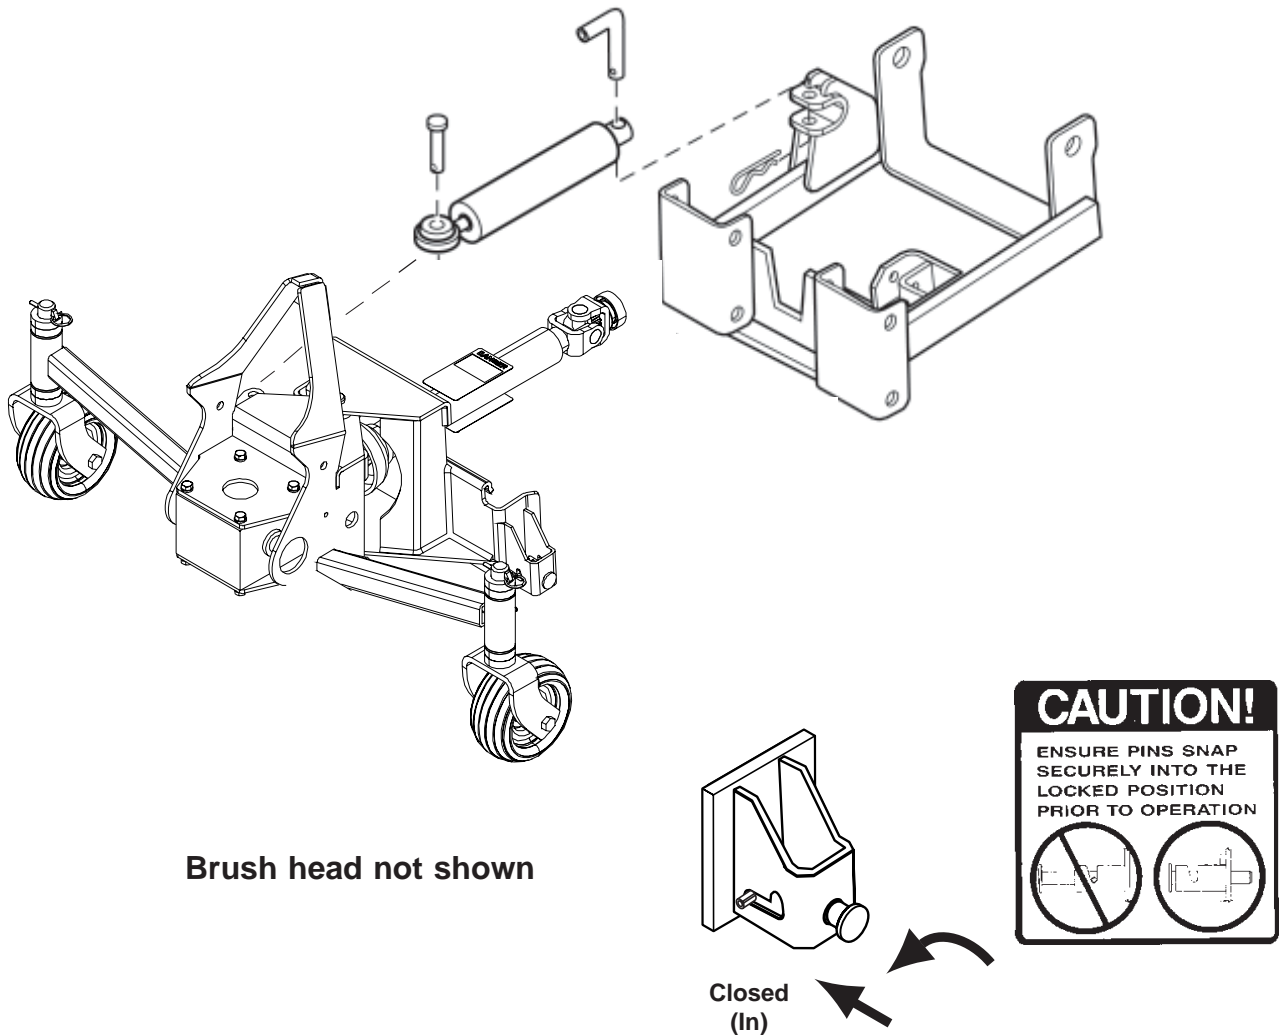

Figure 1.
4. Stop tractor engine, get off tractor, ensure pins snap and engage into hitch. (figure 1.)